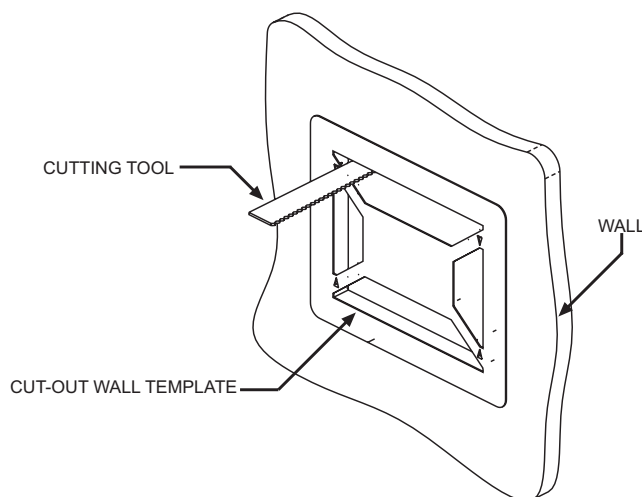

Figure 5 – Cutting the Mounting Hole
3. Using a hole saw or other cutting tool, carefully cut along the **inner guide lines** of the **Mounting Template** as shown in **Figure 5** below.